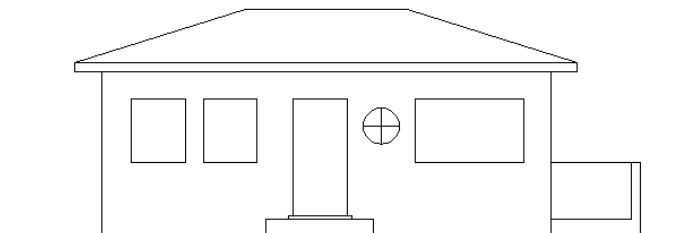

FIGURE C.1: The front elevation of Cabin08a
1. Open Cabin08a and zoom into the front elevation (see Figure C.1).